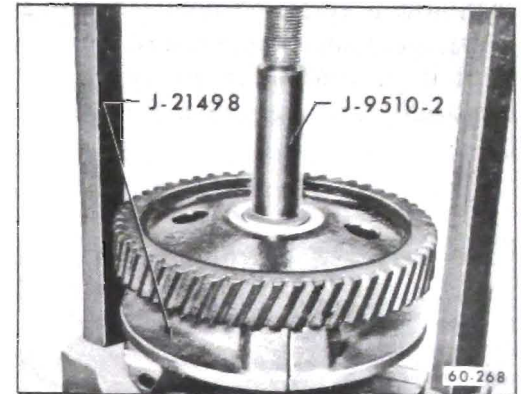

Figure 60-130 - Removing Camshaft Gear
1. If the inspection indicates that the shaft, gear, or thrust plate should be replaced, the gear should be removed from the shaft. Refer to Figure 60-130 for gear removal.